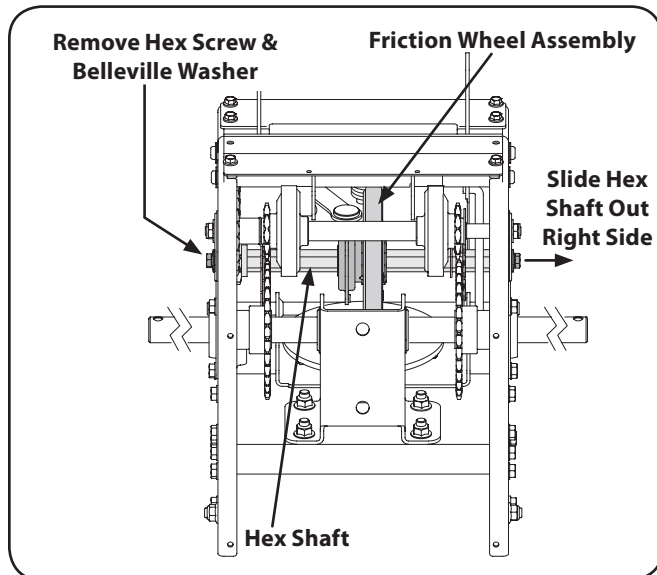

Figure 7-11
- Holding the friction wheel assembly, slide the hex shaft out of the right side of the unit. The spacer on the left side of the hex shaft will fall and the sprocket should remain hanging loose in the chain. See Figure 7-11.